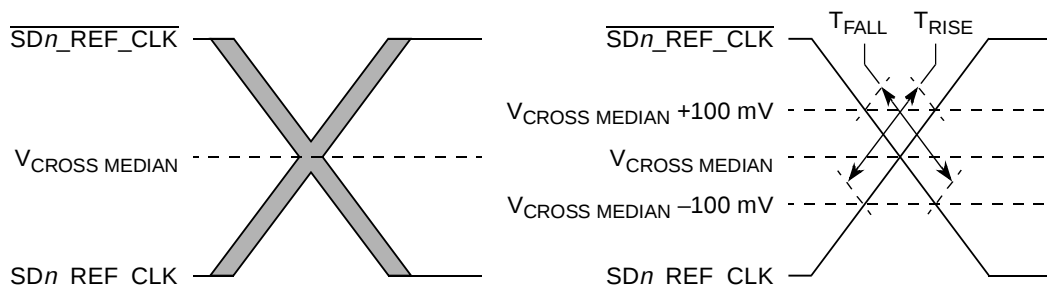

Figure 58. Single-Ended Measurement Points for Rise and Fall Time Matching
- ⁴ Matching applies to rising edge rate for SDn_REF_CLK and falling edge rate for $\overline{SDn_REF_CLK}$. It is measured using a 200 mV window centered on the median cross point where SDn_REF_CLK rising meets $\overline{SDn_REF_CLK}$ falling. The median cross point is used to calculate the voltage thresholds the oscilloscope is to use for the edge rate calculations. The Rise Edge Rate of SDn_REF_CLK should be compared to the Fall Edge Rate of $\overline{SDn_REF_CLK}$, the maximum allowed difference should not exceed 20% of the slowest edge rate. See Figure 58.